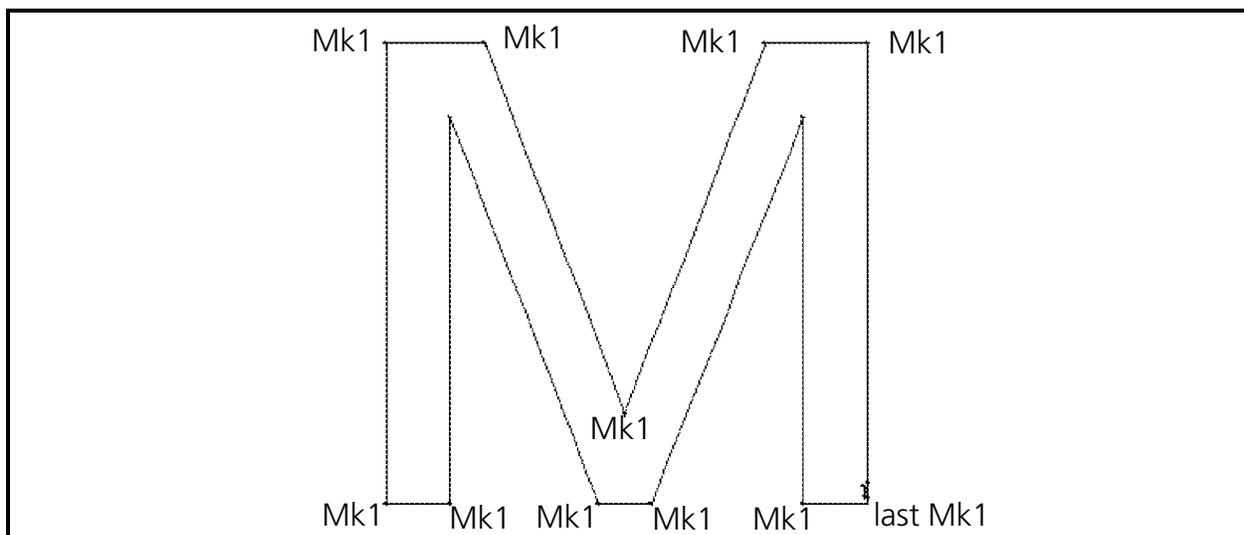

Figure 6-31
2. To generate running stitches from the bottom right corner to the top right corner, put a Mk1 at the top right corner (see Figure 6-31). Follow the same method to place these Mk1s as you did for the previous Mk1s.
3. Now go left to the next corner and enter another Mk1 (see Figure 6-31).